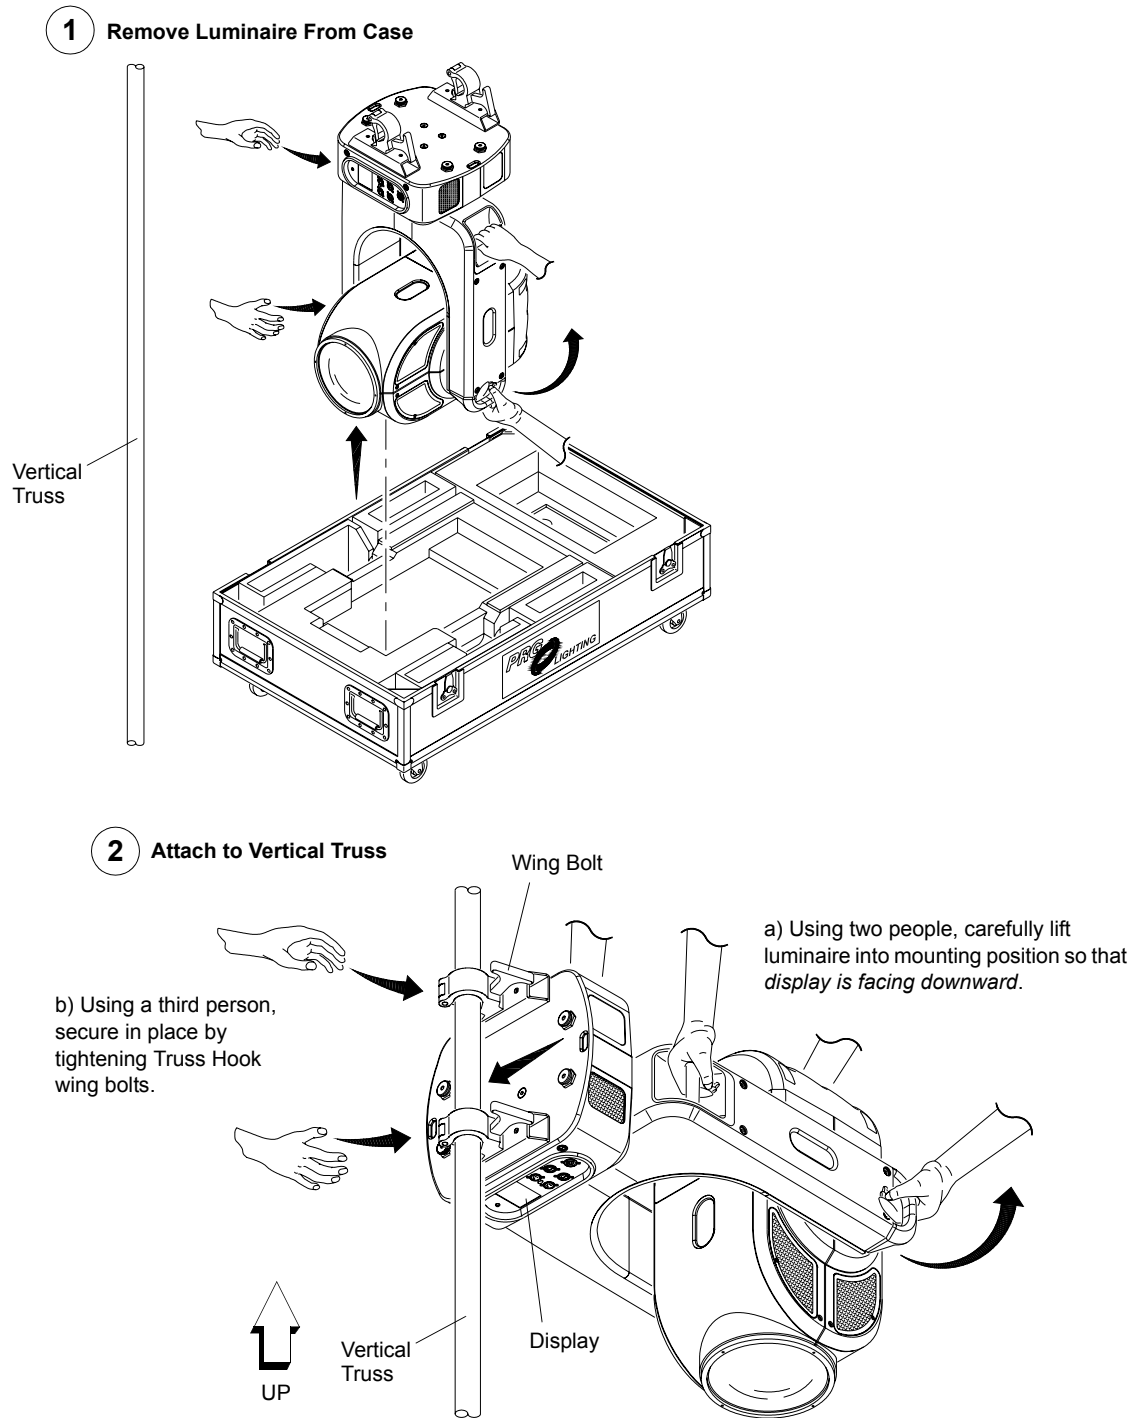

Figure 2-7: Vertical "Yoke Out" Hanging Configuration
- Step 3. Roll case to mounting location as required (Figure 2-7).